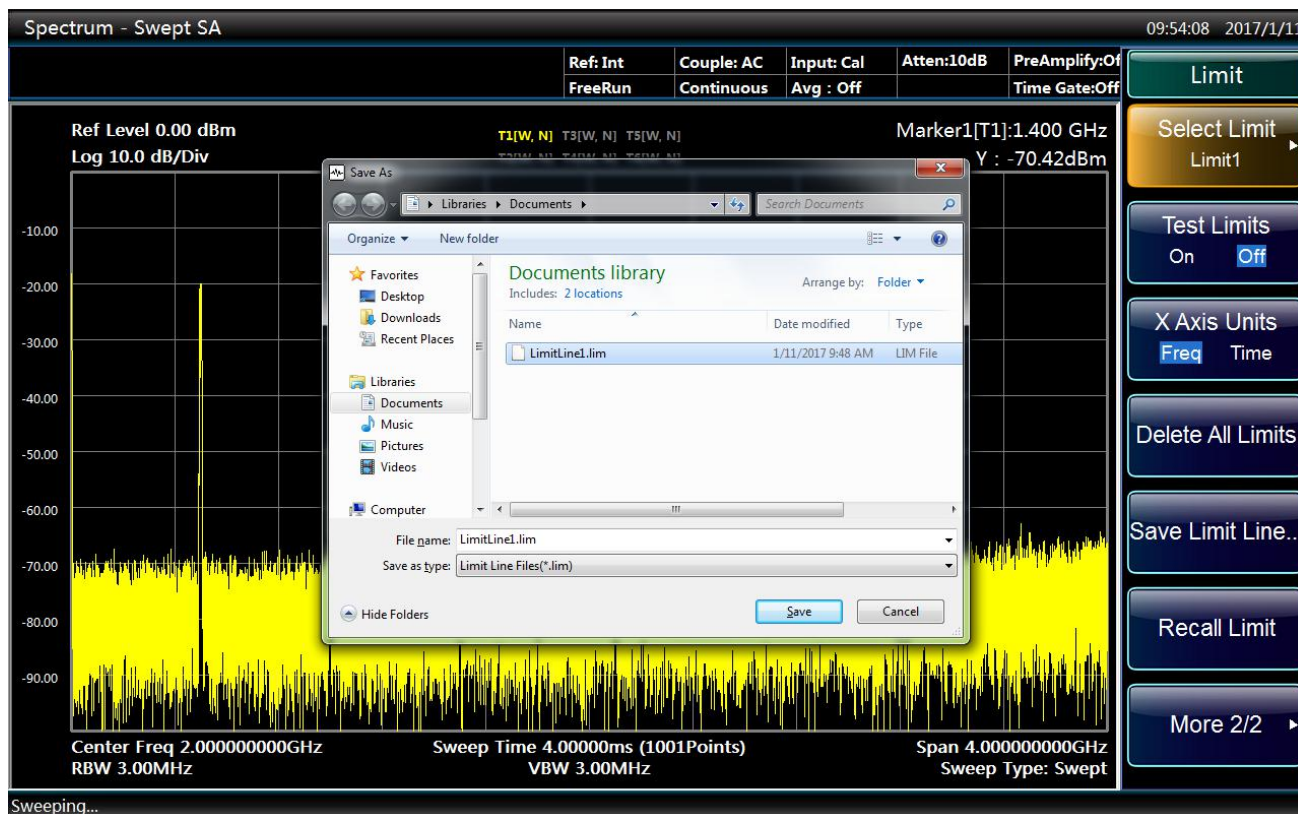

Fig. 4.85 Save Limit Line Window
- Press [Save Limit Line...] Soft menu, pop up Save As dialog box, select save path and save file name, click to save, and it will save the edit data of the current limit line, file name suffixed with “.lim”, as shown in Fig. 4.85.